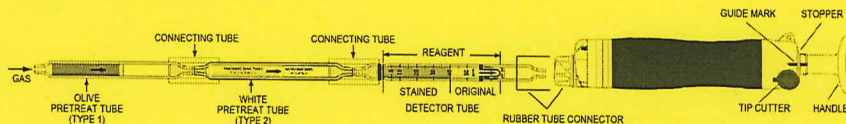

Fig.1
- ① Break both ends of the detector tube and pretreat tubes (Type 1, Type 2), and connect each end of the detector tube and pretreat tubes with connecting tube as shown in Fig.1.
- ② Insert the detector tube into the aspirating pump securely as shown in Fig. 1. (Arrow marks on the detector tube and pretreat tubes shall point to the pump.)
- ③ Align the guide marks on the shaft and stopper of the aspirating pump.
- ④ Pull the pump handle at a full stroke until it locks and wait for 2 minutes or until the completion of sampling is confirmed with the flow indicator of the pump. (See descriptions about the flow indicator in the instruction manual of the pump.)
- ⑤ On completion of sampling, read the scale at the maximum point of the stained layer.
- ⑥ When the concentration is below the scale range, 2 or 5 pump strokes can be used to determine concentrations of 2.5 to 25 ppm or 1 to 10 ppm.